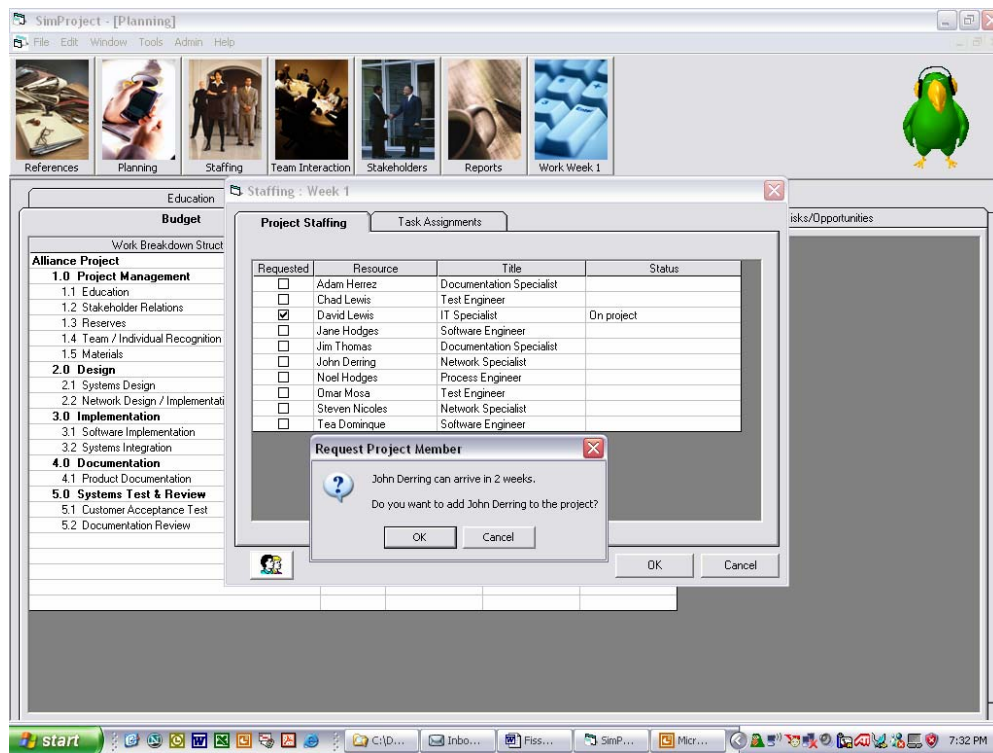

Figure 7 - Project Staffing Decisions by Staff
- Staffing – select individuals you want to add to your team or remove from your team (Figure 7). Note that there is a “quick look” button to your resource plan located in the lower left hand corner of the window.